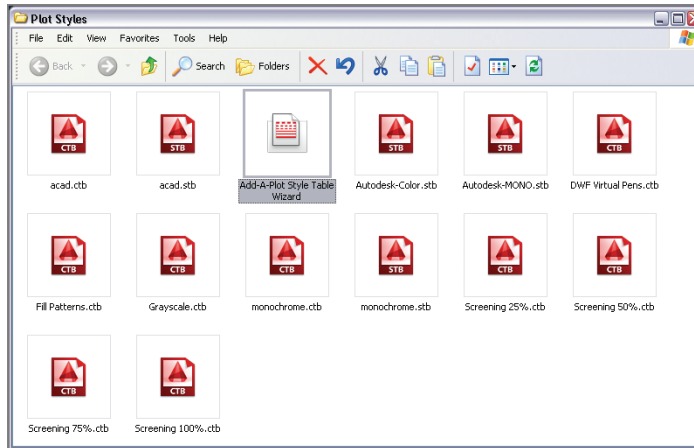

FIGURE 14.7 Windows Explorer showing the plot styles folder
1. Type **STYLESMANAGER**, and press Enter. Windows Explorer appears and displays a number of preset plot style table files (see Figure 14.7).